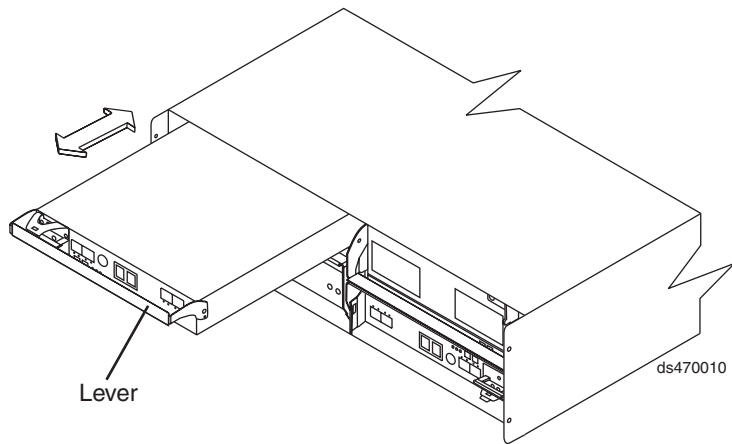

Figure 21. Removing and replacing a controller
2. Slowly pull the lever away from the chassis to remove the controller from the bay, as shown in Figure 21 on page 42.